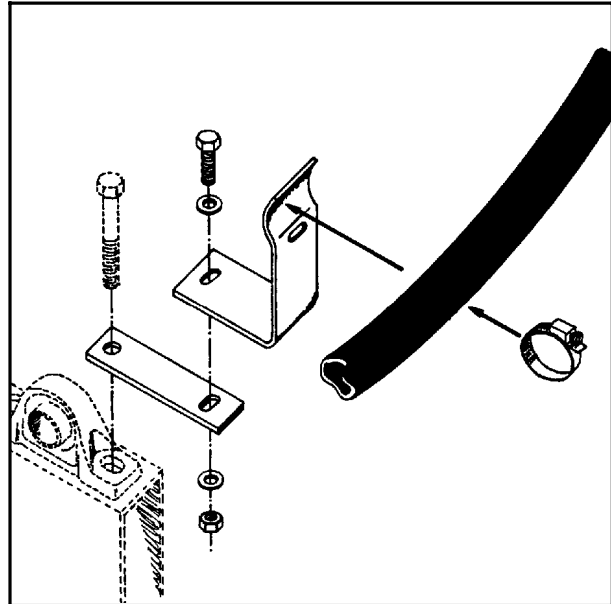

Fig. 4-4
**THE PROTECTION RING** is delivered as a coil. Mount the ring together with the small tube and the screws. Fasten the ring to the brackets on the machine with the enclosed hose-clamps. Then mount the plastic covers to the ring with the plastic strips that also is enclosed. See fig. 4-4 and chapter 14 in the spare parts list.